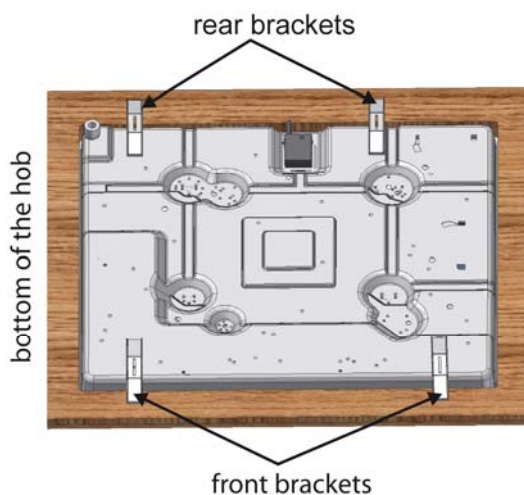

Fig. 9
5. Fix the hob with the four brackets which are included together with other connecting parts (Fig. 9 and 10).